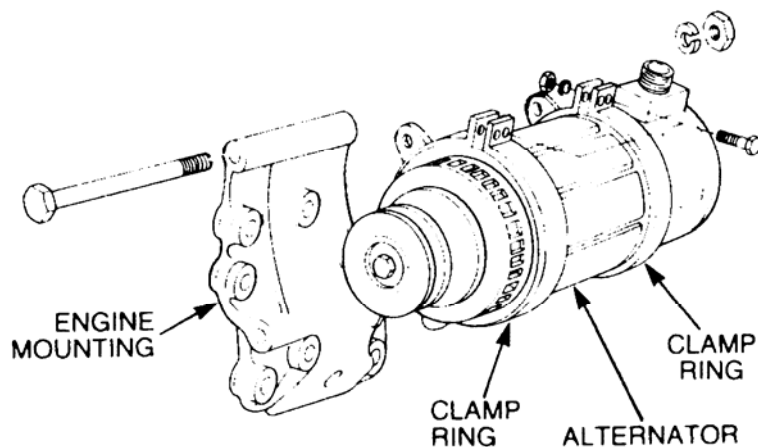

Figure 3 Alternator Installation
- a. Fit the clamp rings onto the alternator and install the bolts, nuts and washers (refer Figure 3).